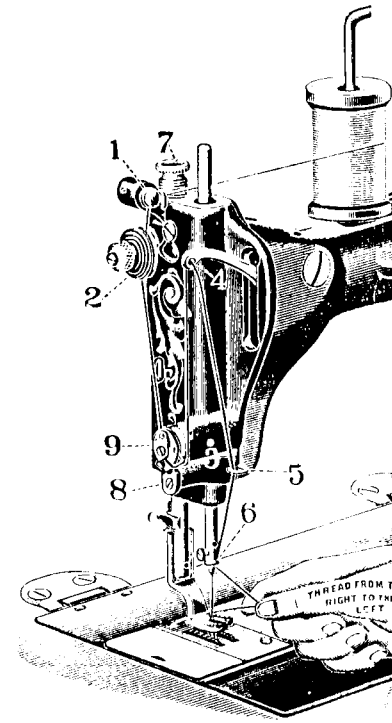
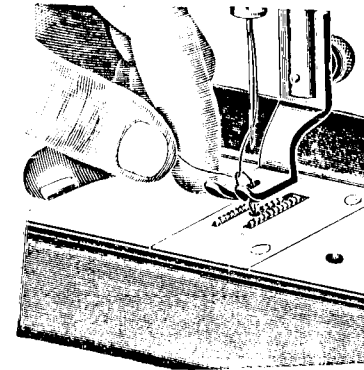
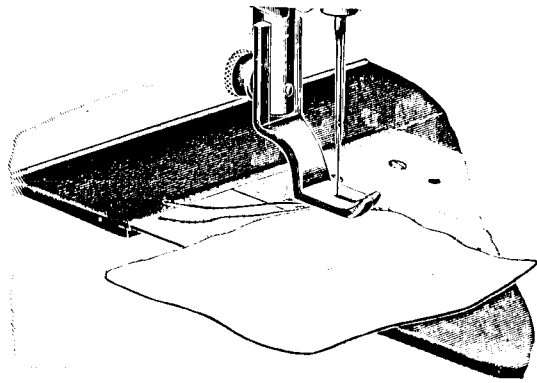

Fig. 3
Fig. 8
Fig. 9
Place the spool on the spool holder, pass the thread under the thread retainer guide wire, through thread retainer (1), down (back) between tension discs (2), thence under thread controller spring (3), up into take-up lever (4), down to thread leader (5) and needle bar thread guide (6), then thread the needle from right to left as shown in Fig. 3 and draw two or three inches of thread through the eye of the needle when the take-up lever is at its highest point.
Let the thread extend through the needle two or three inches when the take-up lever is at its highest position. Hold the end of the upper thread slack between the hand and needle and turn the balance wheel carefully from you while the needle goes down and up, and the point down to the presser foot (see Fig. 3), bringing the take-up lever to its highest position. Keep your feet on the treadle, as foot pressure on the treadle holds the take-up lever at its highest position, then draw up the upper thread and the under thread will come up with it (see Fig. 8). Pass both threads back under the presser foot as shown in Fig. 9.
Pass both threads back under the presser foot (see Fig. 9), place the cloth under the presser foot, and let down the presser lifter. Start the machine by turning the balance wheel from you. Do not pull or push the work, the machine moves it.
Regulate the tension on the upper thread by turning the nut on top of tension (see 2, Fig. 3) toward you to tighten and from you to loosen the tension. When the presser lifter is down the upper tension may be tested by hand.
Turn presser bar thumb screw (7, see Fig. 3) inward to make the pressure heavier or outward to make it lighter; the pressure should be only heavy enough to prevent the material from rising with the needle and to insure the feed moving the work along evenly; a heavier pressure would make the machine run harder and be of no benefit.
To vary the tension of the controller spring, loosen the set screw near (3, see Fig. 3) at the right of the spring, remove the face plate, then from the inside turn the stud forward or backward as required and tighten the set screw. In any case where an unusually light tension is used, the tension on the controller spring should be correspondingly light. The coils of the controller spring should be oiled occasionally.
To Place a New Thread Controller in Position. Remove the entire thread controller by taking out screw (8, see Fig. 3) and release the spring by removing screw (9). (Be careful not to